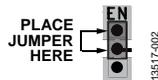

Figure 2. Enabled Jumper Position
- Use a jumper to connect the top two pins of the EN test bus. This jumper connects EN to VIN and enables the ADP1974 (see Figure 2).